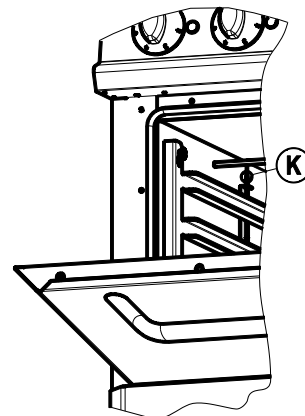

Fig.3
- When cleaning, take care not to damage the thermostat sensor "K" (fig.3) located within the oven.